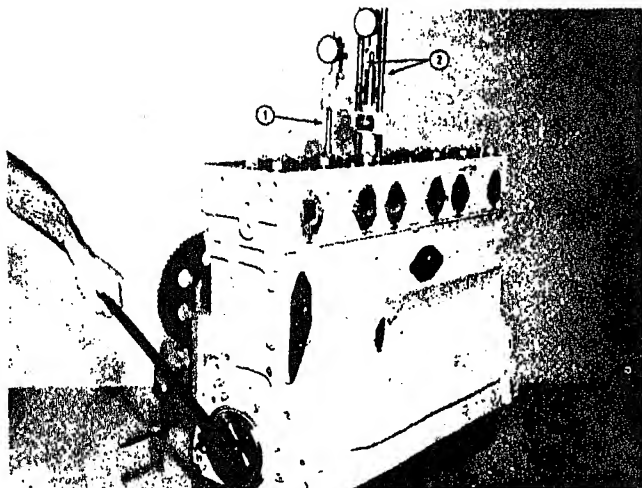

Fig. 14-1-38. Barring engine to check injection timing
cylinder desired; install **Timing Tool** in injector sleeve of same cylinder by engaging short rod (1, Fig. 14-1-38) in injector push tube socket and securing tool in place with retainers (2, Fig. 14-1-38).
2. Bar engine in direction of rotation to T. D. C. (maximum point of piston rise when both intake and exhaust valves are closed), Fig. 14-1-38. Install indicator above piston within 0.010 in. [0.2540 mm] of fully compressed position. Set indicator dial at "O".